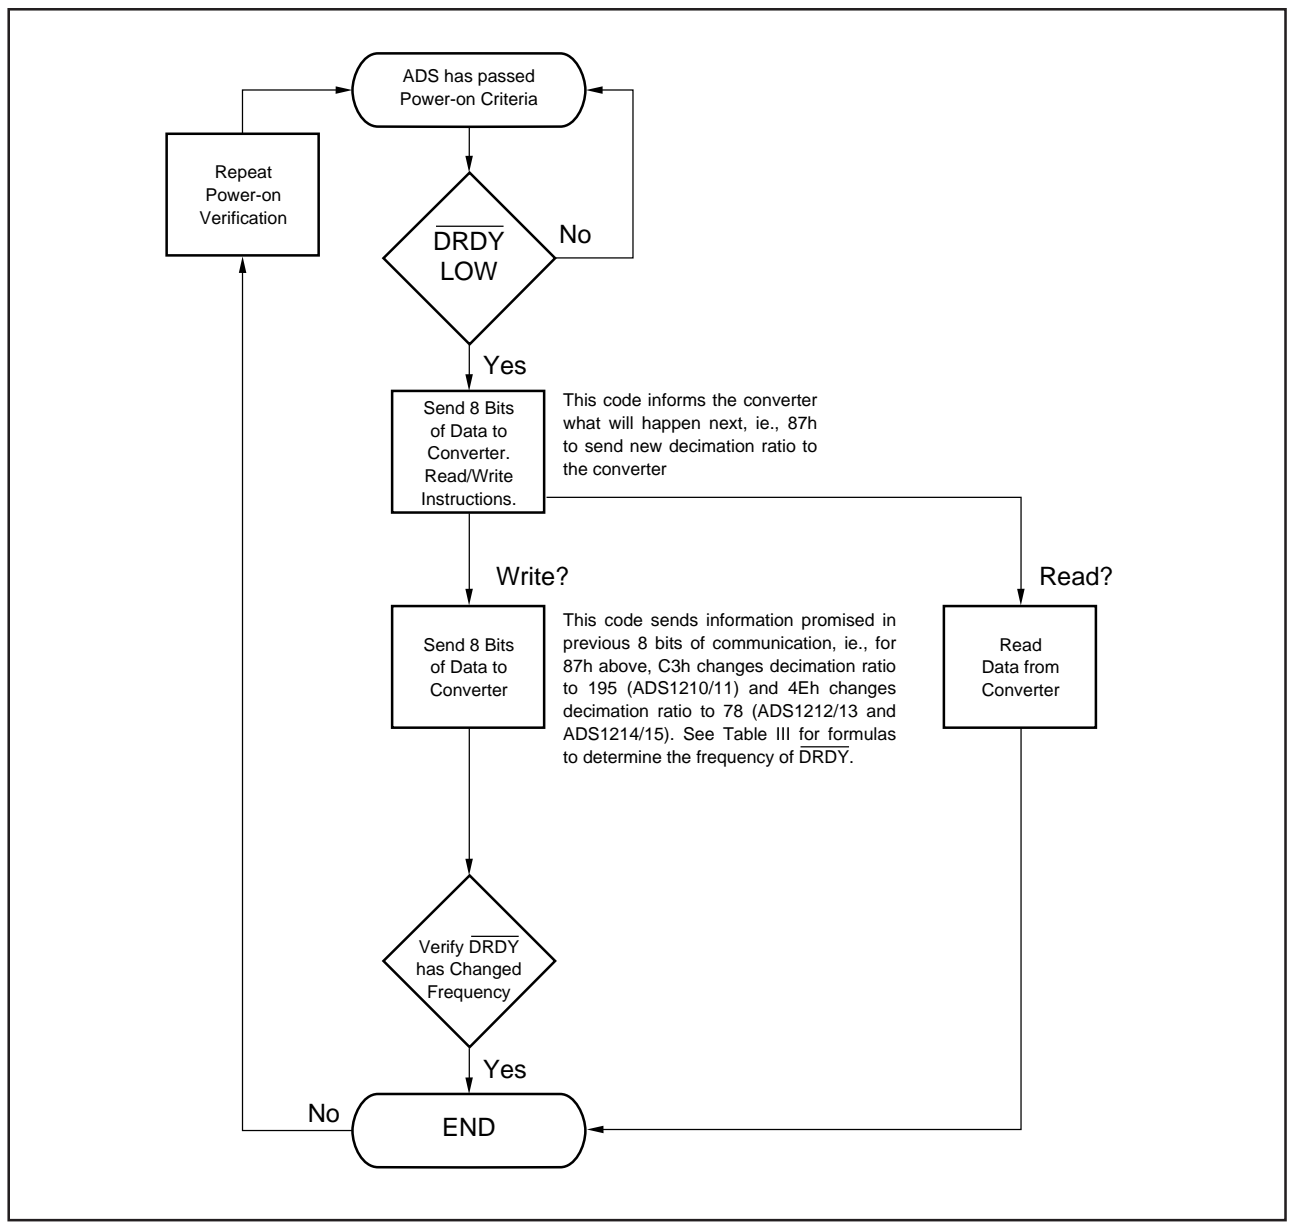

FIGURE 3. This Flow Chart will Program the A/D Converter to Change the Frequency on the $\overline{\text{DRDY}}$ Output Pin.
The first key indicators that something is wrong with $\Delta\Sigma$ converter are discussed in the power-on section above. Before proceeding further, the $\overline{\text{DRDY}}$ output must be running at the frequency specified in Table III. Once the converter demonstrates that the power-on sequence was successful, the DSP should run a simple communication test with the converter. Per the flow diagram in Figure 3 and the timing diagram in Figure 2, the DSP should wait for $\overline{\text{DRDY}}$ to go low. After five X_{IN} cycles, the DSP should send a 8-bit code (synchronized with SCLK), instructing the converter to receive one 8-bit instruction which will change the data rate of the converter. The DSP should then send the second 8-bit instruction (following the "Write Data" flow) that should change the output frequency of $\overline{\text{DRDY}}$. After these 16-bits of instruction and the last SCLK, $\overline{\text{DRDY}}$ should return to high. This simple exchange will verify that communication has been established. If this first attempt at communication fails, refer to Table IV for troubleshooting guide. AB-112 gives an example of a 80 x 51 type processor interface code.
- **Change the data output pin on the A/D converter from SDIO to SDOUT**—Per Figure 3, change the first HEX code to 84h and the second HEX code to 42h. The first HEX code will tell the converter to expect instruction. The second HEX code will change the output interface from SDIO to SDOUT.